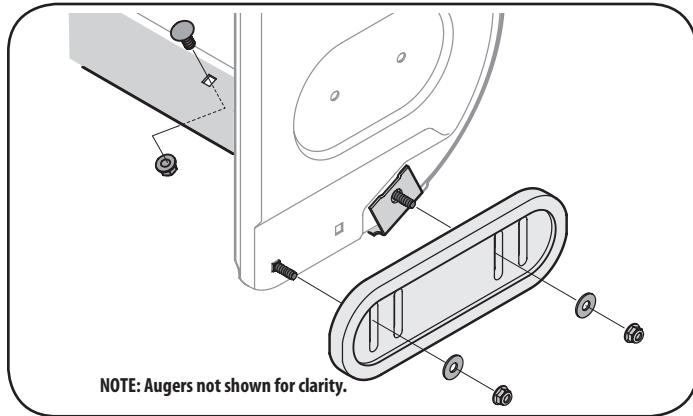

Figure 59
2. Reassemble new skid shoes with the four carriage bolts (two on each side), washers, and hex flange nuts. Refer to Figure 59.
2. Reassemble new shave plate, making sure heads of carriage bolts are to the inside of housing. Tighten securely. See Figure 59.